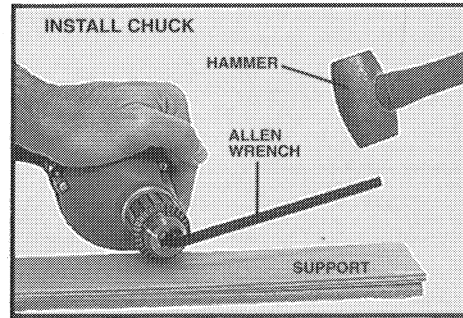

Fig. 6
5. **INSTALL CHUCK:** Open jaws of replacement chuck as wide as possible. Thread chuck onto spindle by turning chuck clockwise. Hand tighten. Install allen wrench in chuck (see Step 4). While supporting chuck on a solid surface, position allen wrench to the right (see Fig. 6) and strike a sharp blow with a hammer to seat chuck onto spindle.